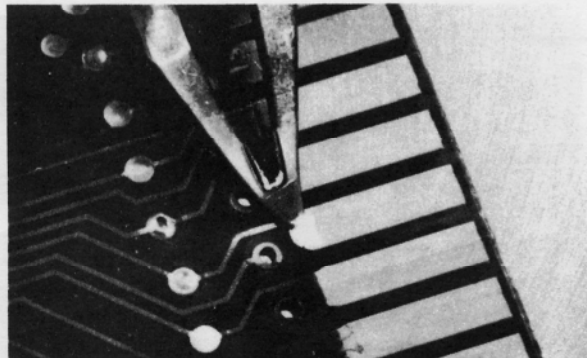

FIGURE 23. REFLOW SOLDER CONNECTOR
STEP 20. Temporarily tape new Edge Connector in place before applying adhesive. Apply PACE Liquid Flux (or equivalent) to the Connector overlap area. Reflow solder the Connector to the track (see Figure 23). The PACE LapFlo Soldering Tool (see Equipment and Training) is ideally suited for this operation. (Refer to STEP 15 for reflow instructions).